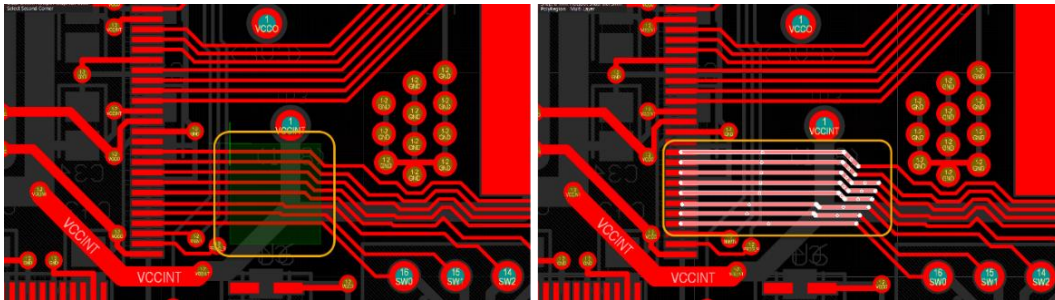

Figure 19. Selecting top routes
41. Drag a selection box from lower right to upper left to select the parallel track segments, leaving U1 and routing to S2. This will select the first track segment of those parallel routed nets, refer to Figure 19 below.